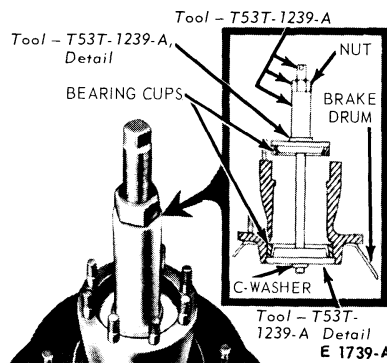

FIG. 8 Installing Bearing Cup
13. If the bearing cups are to be replaced, drive them out with a drift. Install the new cups with the tool shown in Fig. 8 or press them in.